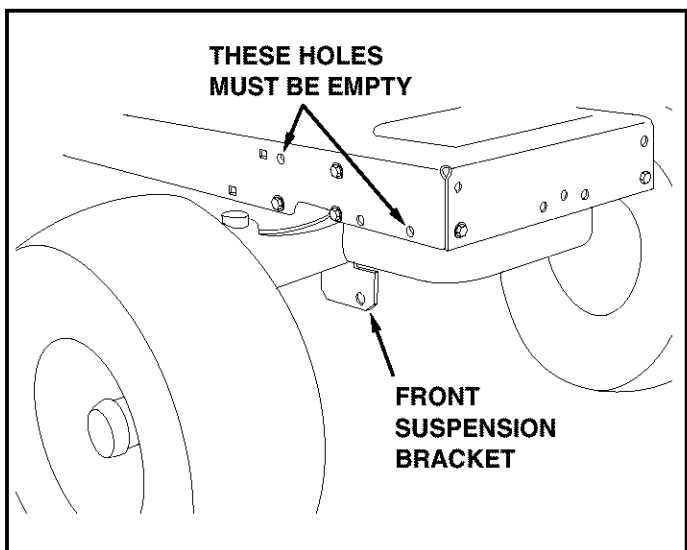

FIGURE 4
- Remove any bolts present in the holes shown in figure 4 on both sides of the tractor frame.